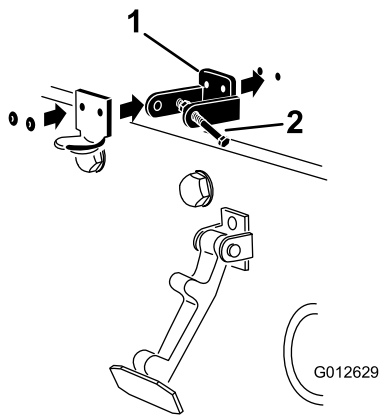

Figure 6
4. While aligning the mounting holes, position the CE lock bracket and the hood-latch bracket onto the hood (Figure 6).
6. Rivet the brackets and the washers to the hood (Figure 6).